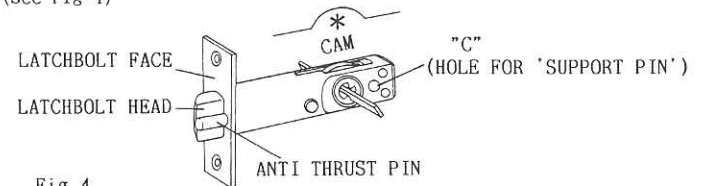

Fig 4
- \* This will support your MORTICE LATCHBOLT when inserted into hole of "C" in Fig 4 on page 4.
- \* When morticing out for the Latchbolt, you must ensure that the inside of the 22mm mortice hole is enlarged by moving wood drill up and down, or using a small chisel - this is important to give clearance above the spindle slot in Latchbolt for movement of the cam which moves up as the Latchbolt Head is withdrawn. (see Fig 4)